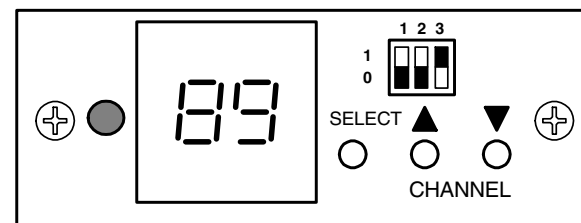

Figure 2
1. Using a paper clip or ballpoint pen tip, press and hold the "SELECT" button until the LED flashes. Release the "SELECT" button. See Figure 2.
The dipswitches on the front panel of the HS-VM1100 modulator are used to select the range of channels available. See Figure 2.